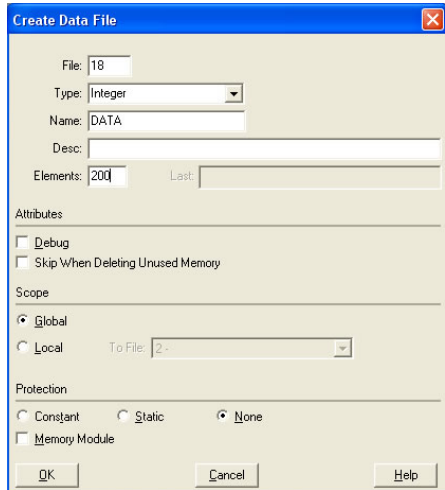

Figure 112: Creating a Data File
- c) Follow the same procedure to create a data file. This file will be used to store the incoming data read from the interface card. Enter a file number (e.g. 18), set the type to "Integer", enter a descriptive name (e.g. "DATA"), and enter a number of elements (e.g. 200). Refer to Figure 112. Click OK to create the file.